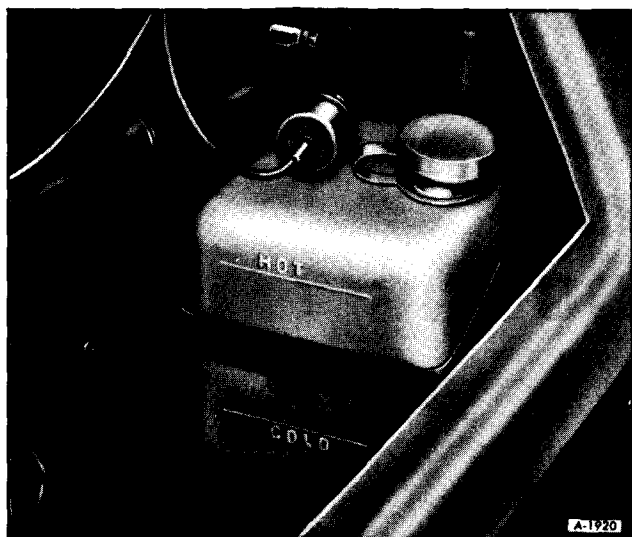

Figure 2—Coolant Recovery Reservoir Type I
A pressure-vacuum valve radiator cap is used which allows the coolant to expand through the pressure valve in the center of the cap without building unnecessary pressure. The expanding coolant flows into the coolant reservoir (See figures 2 and 3). The vent valve closes due to expansion and coolant flow. The nominal 9 pound pressure will not be reached until the system is working at maximum capacity.
7. Fill reservoir to "COLD" level mark. See Figure 2.